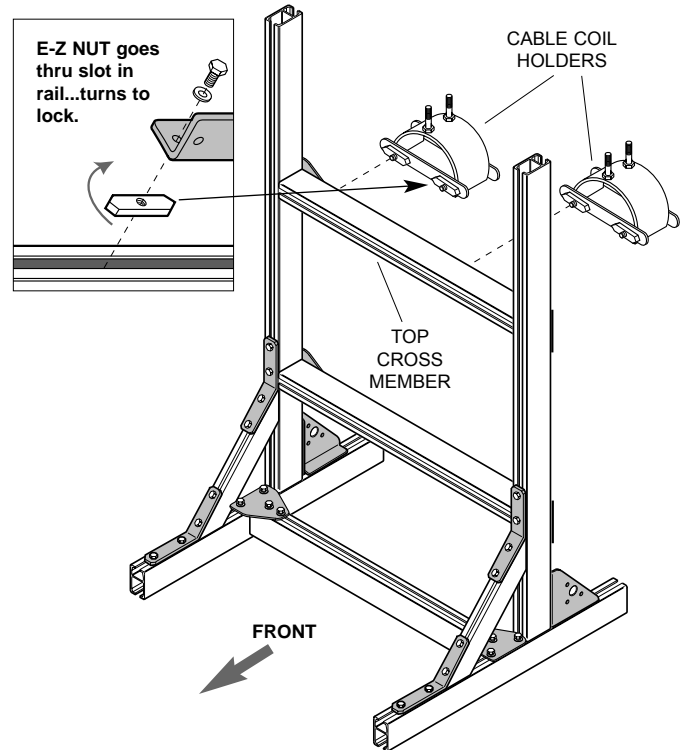

Figure 8.
- Mount cable coil holders on top cross member using *E-Z NUTS*™ as shown (Fig 8). Securely tighten all bolts.